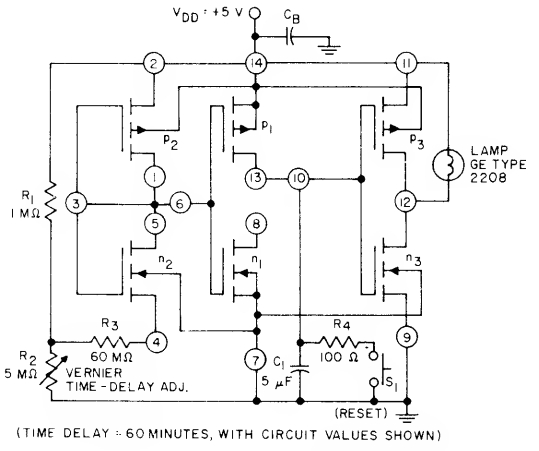

Fig. 26—Analog timer using CA3600E.
The CA3600E is useful in the design of analog timer circuits. A typical circuit is shown in Fig. 26. For purposes of explanation, let it be assumed that capacitor C_1 initially is in a completely discharged condition; terminal 10, therefore, is initially at ground potential and transistor N_3 is non-conductive. The circuitry at the left of terminal 10 provides a source of constant-current flow through P_1 to charge capacitor C_1 increasingly positive with respect to ground. After the passage of time (T), capacitor C_1 is charged sufficiently in the positive direction so that transistor N_3 is driven into conduction by its gate and the lamp is lighted to signify the end of the time-delay period. The circuit is reset by momentarily closing switch S_1 to discharge capacitor C_1 through R_4 . Resistor-divider network R_1, R_2 establishes the supply voltage to a constant-current network comprised of resistor R_3 and the series-connected COS/MOS pair N_2, P_2 , biased for linear operation by resistor R_D as previously described. This combination is connected to the gate terminal (No. 6) of
A variant of this complementary current mirror is used in the analog timer circuit shown in Fig. 26. Transistors P_2 and N_2 are series-connected together with a 60-megohm resistor to establish their drain current at 5 nA. The potential developed across terminals 1 and 2 also appears as the gate-source voltage for transistor P_1 , thereby establishing a mirror-current source of 5 nA at terminal 13 to charge capacitor C_1 linearly. In this circuit, the "mirrored" current-sink available at terminal 8 (transistor N_1) is unused. This type of current-mirror configuration is exceptionally stable with temperature variations.